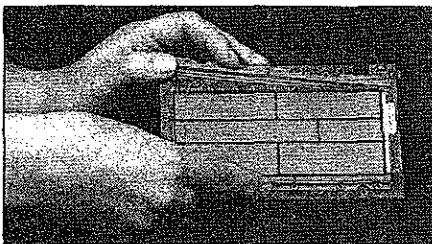

Figure 34
5. Using a No. 1 Phillips head screwdriver, remove the nine (9) 2-56x5/16" Phillips pan-head screws, 2-56 hex nuts, and #2 nylon washers securing the zebra retainer to the display PCB.
6. Gently pull the zebra retainers away from the LCD as illustrated in Figure 34. The zebra strips may "stick" to the LCD, so you may have to pull at the retainers with increasing force. Be careful to note that the backlight panel is still soldered to ELP1 and ELP2. Remove the LCD, and zebra strips from the zebra retainer.